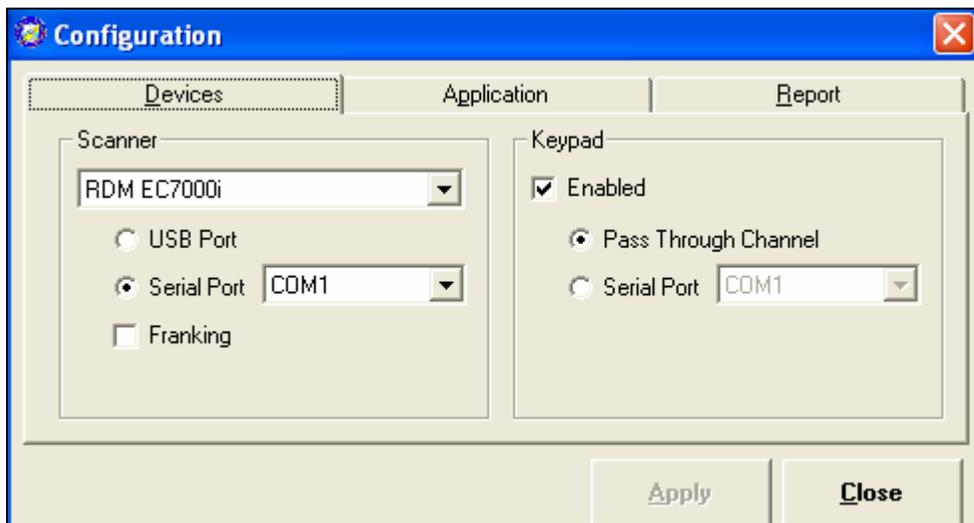

Figure 2.0.7
2. Click on **'File'**, then **'Configuration'**, then click the **'Devices'** tab. The following screen will appear (Figure 2.0.7)
4. If your scanner is using a serial connection, you must set up the configuration as describe in this step in order for the Yes/No keypad to work. On the left side of the screen pictured in Figure 2.0.7, click the radio button for **'Serial Port'**. On the right side of the screen beneath the **'enabled'** field, click the radio button for **'Pass Through Channel'** then click the **'Apply'** button.